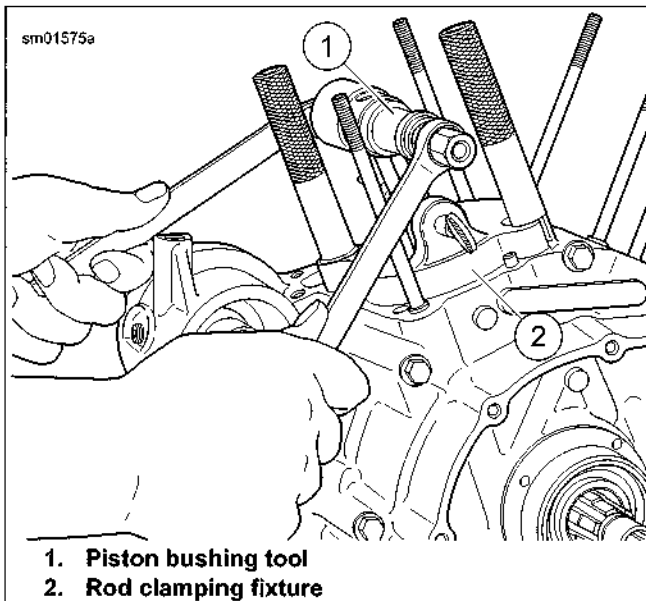

Figure 3-62. Installing New Piston Pin Bushing
- h. See Figure 3-62. Using two box end wrenches, tighten nut on bolt until collar on remover/installer bottoms against connecting rod.